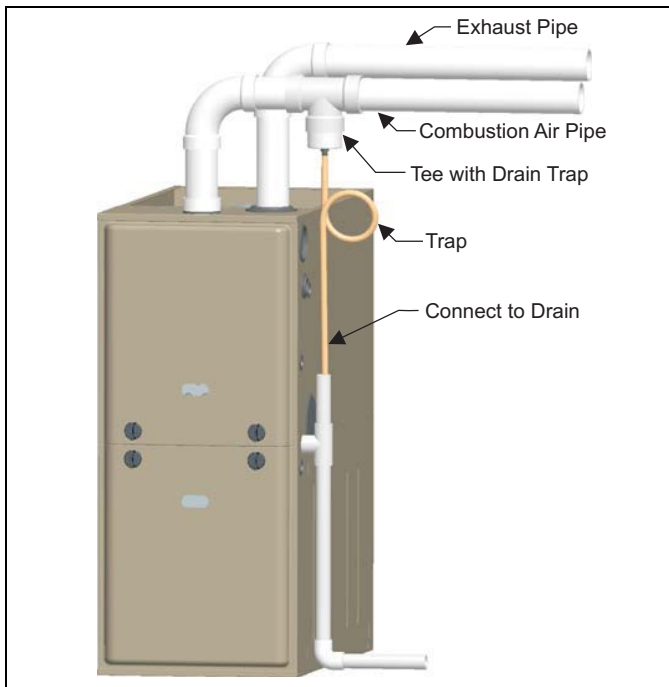

FIGURE 21: Typical. Combustion Pipe Drain Tee.
*It is possible for condensation to form inside the combustion air (intake) pipe in the summer months if significant length of combustion air pipe passes through conditioned space. This problem can be averted by the addition of a simple drain tee, or a drain tee with a trap on the combustion air pipe as close to the furnace as possible, as shown in Figure 21. This is true for all long horizontal venting in any furnace configuration. This will prevent the condensate from entering the furnace.*